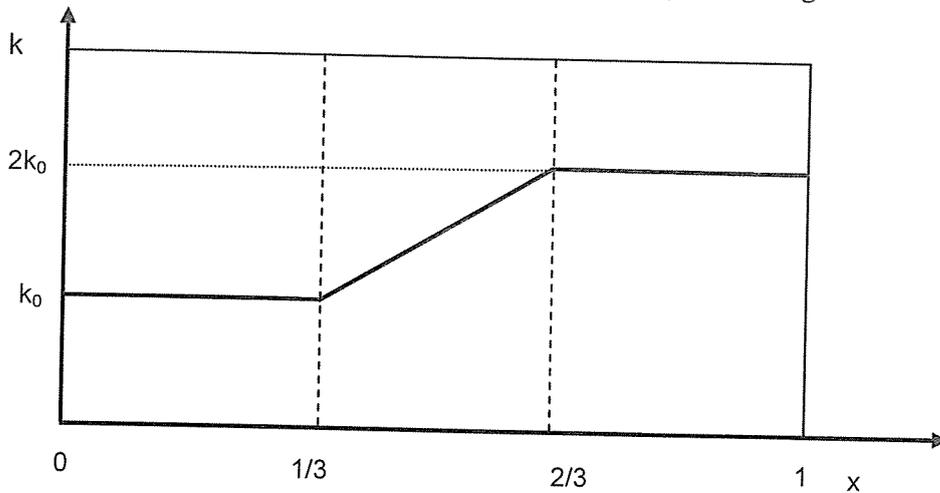

Fig. 2 Thermal conduction coefficient in a wall as a function of x .
- (1 pnt) f). In figure 2 a one-dimensional wall is shown, and plotted is the thermal conduction coefficient as a function of the wall coordinate x . For the first $1/3$ of the wall the thermal conduction coefficient is constant with value k_0 , for the next section $1/3 < x < 2/3$ it rises linearly to a value $2k_0$, in the last section it is constant and has a value $2k_0$. At $x=0$ the temperature is T_1 and at $x=L$ the temperature is T_2 . We assume that $T_1 < T_2$. Take over the graph on your answering paper, and draw also the temperature in the wall (along y -axis) as a function of x (use another ballpoint or pencil colour if possible). Motivate why the behaviour is as you draw it. No calculations are asked, only some insight is needed.